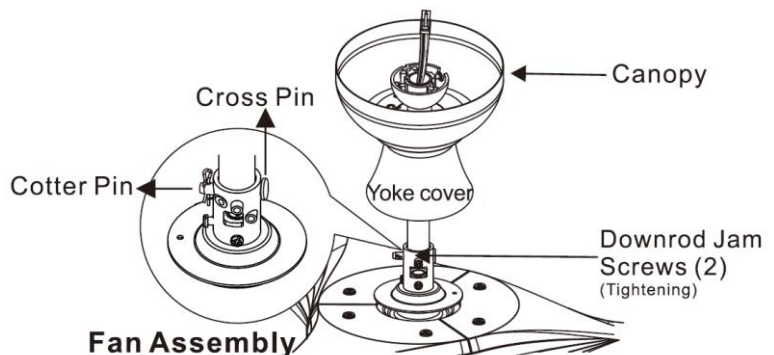

Fig. 7
8. Insert the downrod assembly into the yoke, insert the cross pin through the yoke and downrod, securing it with the cotter pin. (as removed in step 3) (Fig. 7).